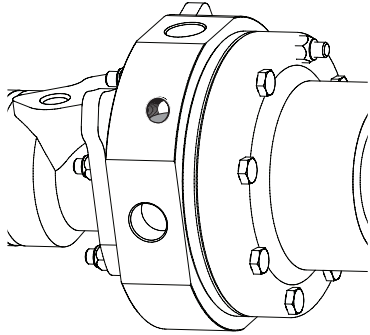

Figure 12
3. Once the oil fill hole is at approximately 60°, the oil should be sitting at the base of the oil fill hole. See Figure 12.